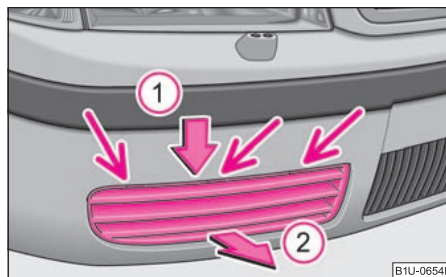

Fig. 173 Front bumper: protective grille of towing eye
The front towing eye is welded on behind the bumper on the right ⇒ fig. 173. The tow rope or the tow bar must only be attached to this eye. The grille is secured with plastic lugs at the points of the arrows. Remove the grille as follows:
- Grasp the grille on the ribs in the upper area. Press it in the direction of arrow ① and take it out in the direction or arrow ② ⇒ fig. 173. ►